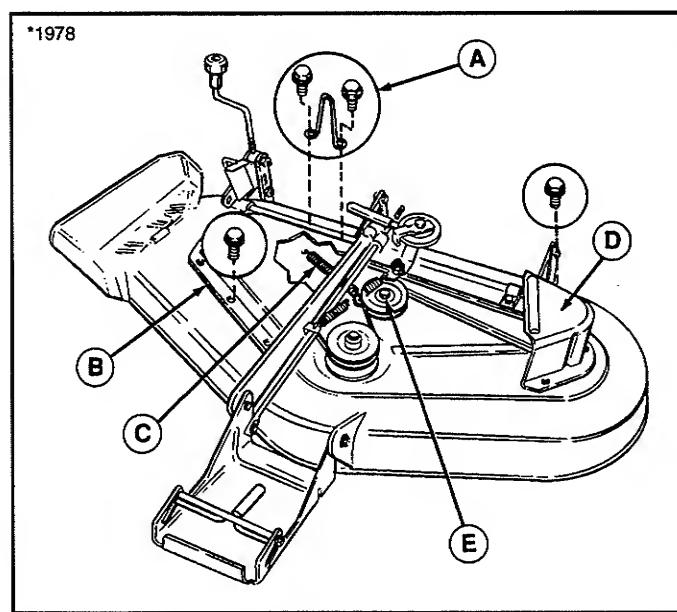

Figure 38. Mower Deck
- Loosen nut and lockwasher securing bracket belt stop (C, figure 38) on idler pulley. Remove three capscrews securing left-hand arbor cover (D, figure 38).
- Install spring (C, figure 38) to slot in mower deck. Tighten capscrew securing idler pulley.